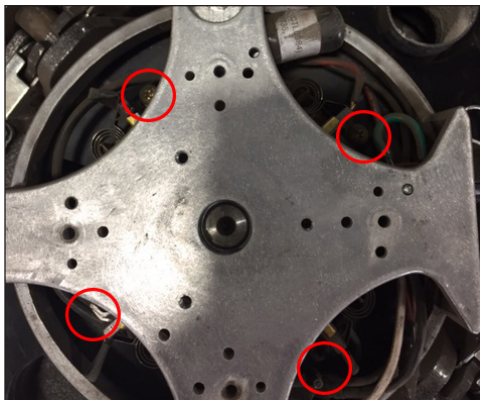

FIG. 10
3. Remove (4) screws inside motor next to each brush (Figure 10).